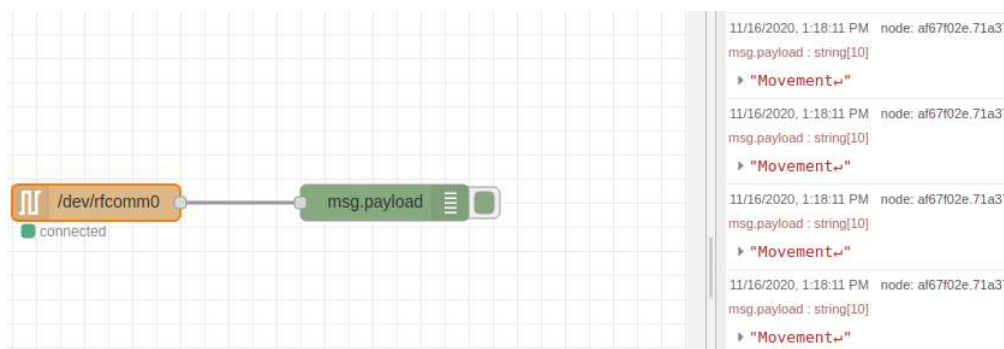

Figure 5.6: Final Output: Node-RED Debug Panel Showing PIR Sensor Data over Bluetooth
- The “Final Output” might look like Figure 5.6, confirming you have a live data stream from Arduino to Pi via Bluetooth.